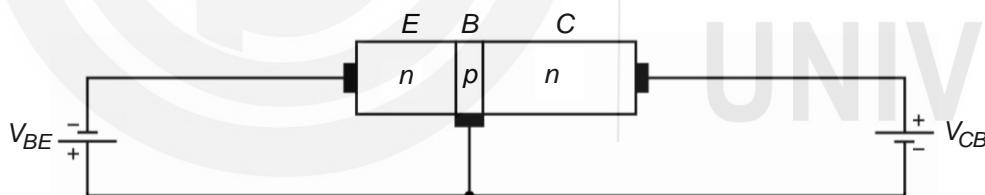

Fig. 3.4: An *n-p-n* transistor when the emitter-base junction is forward biased and collector-base junction is reverse biased.
A typical biasing scheme of an *n-p-n* transistor is shown in Fig. 3.4. Note from Fig. 3.4 that in an *n-p-n* transistor, the **emitter-base *p-n* junction is forward biased while the collector-base *p-n* junction is reverse biased** for its normal operation as an amplifier.
- Draw a labelled diagram similar to Fig. 3.4 showing how a *p-n-p* transistor is biased.